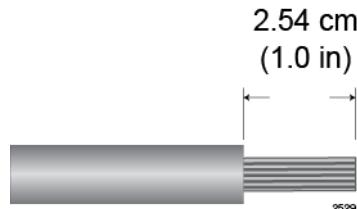

Figure 105. Stripping the solid or Stranded Grounding Wire
1. Prepare an adequate length of solid or stranded 10 AWG grounding wire by stripping it as shown in Figure 105.